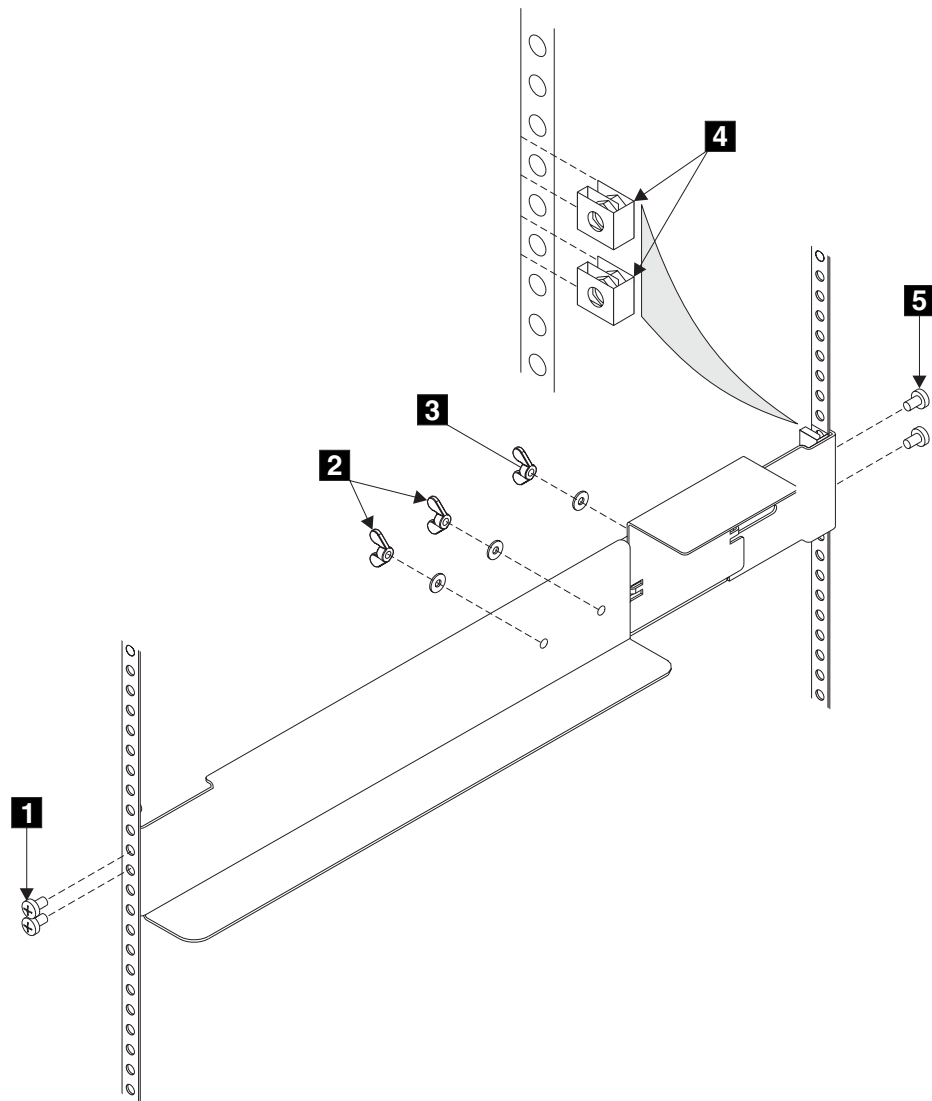

Figure 19. Installing support rails for a uninterruptible power supply into the rack
3. At the back of the rack, observe the Electrical Industries Association (EIA) positions, and determine where you are going to install the uninterruptible power supply (see Figure 19). An uninterruptible power supply must always be installed into the lowest available position in the rack. The only device that can be below a uninterruptible power supply is another uninterruptible power supply.